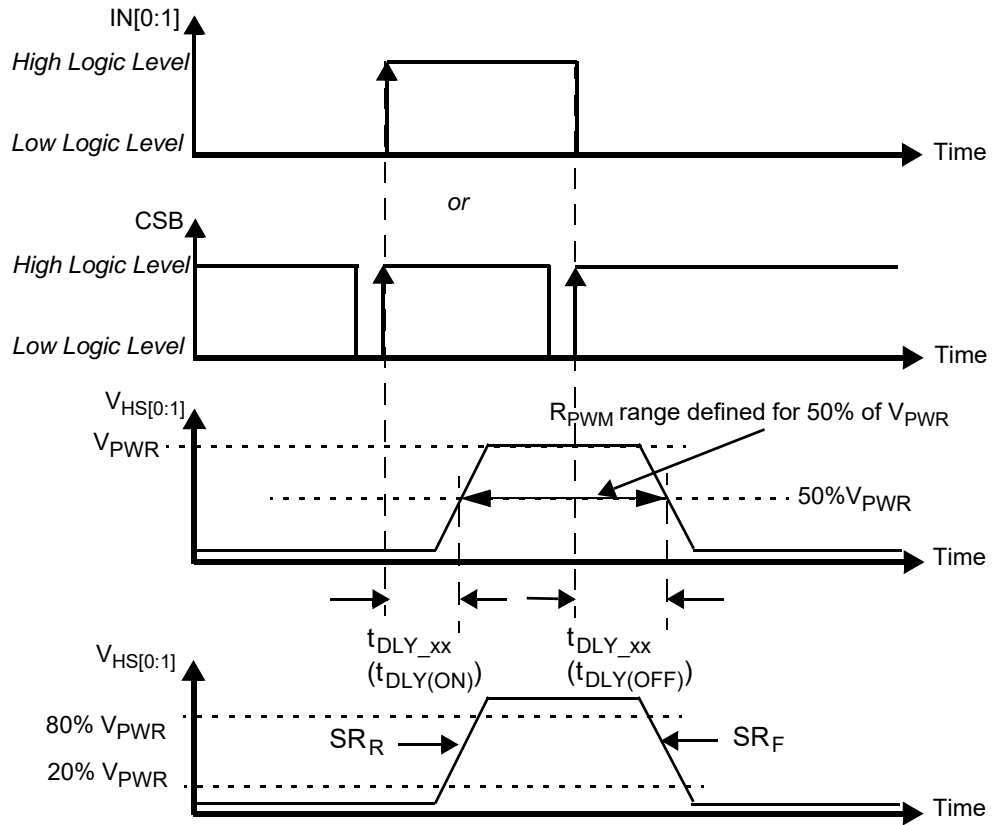
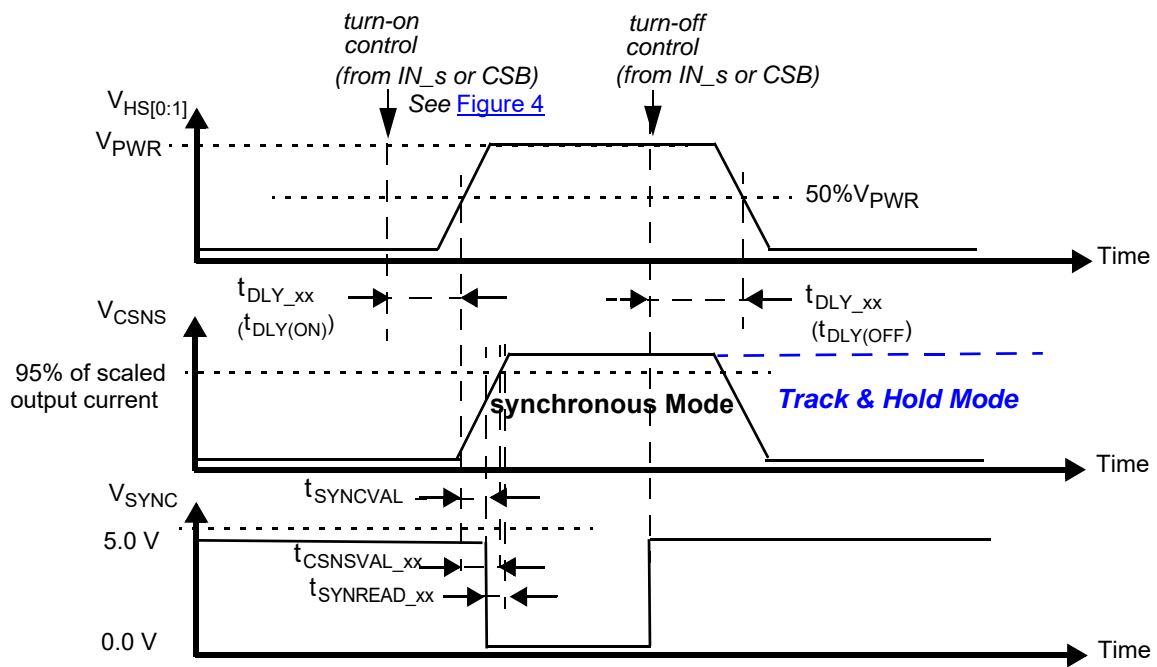

Figure 4. Output voltage slew rate and delay
Figure 9. Synchronous and Track & Hold current sensing modes: associated delay and settling times
30. Rising and Falling edge slew rates specified for a 20 to 80% voltage variation on a $10\ \Omega$ resistive load (see Figure 4).
32. Time required to switch off the channel after detection of overtemperature (OT), overcurrent (OC), SC or UV error (time measured between start of the negative edge on the FSB pin and the falling edge on the output voltage until $V(\text{HS}[0:1]) = 50\%$ of V_{PWR}).
33. Settling time ($= t_{\text{CSNSVAL_xx}}$), SYNC output signal delay ($= t_{\text{SYNCVAL_xx}}$) and Read-out delay ($= t_{\text{SYNREAD_xx}}$) are defined for a stepped load current ($100\text{ mA} < I(\text{LOAD}) < I(\text{OCLX_A FOR CSNS_RATIO_S} = 1)$, AND $300\text{ mA} < I(\text{LOAD}) < I(\text{OCLX_A_0 FOR CSNS_RATIO_S} = 0)$). (see Figure 9 and Output current monitoring \(CSNS\))
34. Settling time ($= t_{\text{CSNSVAL_xx}}$), SYNC output signal delay ($= t_{\text{SYNCVAL_xx}}$) and Read-out delay ($= t_{\text{SYNREAD_xx}}$) are defined for a stepped load current ($100\text{ mA} < I(\text{LOAD}) < I_{\text{OCLX A}}$ FOR $\text{CSNS_RATIO_S} = 1$, AND $300\text{ mA} < I(\text{LOAD}) < I_{\text{OCLX A}_0}$ FOR $\text{CSNS_RATIO_S} = 0$). (see Figure 9 and Output current monitoring \(CSNS\))
The CS pin allows independent current monitoring of channel 0 or channel 1 up to the steady-state overcurrent threshold. It can also be used to sense the device temperature. The different functions are selected by setting bits CSNS1_en and CSNS0_en to the appropriate value (Table 23). When the CSNS pin is sensed during switch-off in the (optional) track & hold mode (see Figure 9), it outputs the scaled value of the load current as it was just before turn-Off. When several devices share the same pull-down resistor, the CSNS pins of devices, the current of which is not monitored, must be tri-stated. This is accomplished by setting CSNS0_en = 0 and CSNS1_en = 0 in their GCR register (Table 12). Settling time ($t_{CSNSVAL_XX}$) is defined as the time between the instant at the middle of the output voltage’s rising edge ($HS[0:1] = 50\%$ of V_{PWR}), and the instant at which the voltage on the CSNS pin has settled to $\pm 5.0\%$ of its final value. Anytime an overcurrent window is active, the CSNS pin is disabled (see Overcurrent detection on resistive and inductive loads). The current and temperature sensing functions are unavailable in Fail-safe mode and in Normal mode when operating without the V_{DD} supply voltage. In order to generate a voltage output, this pin requires a pull-down resistor ($R(CSNS)=1.0\text{ k}\Omega$ typ. and $470 < R(CSNS) < 10\text{ k}$). When the current sense resistor connected to the CSNS pin is disconnected, the CSNS voltage is clamped to $V_{CL(CSNS)}$. The CSNS pin can source currents up to about 5.6 mA.
To synchronize current sensing with an external process, the SYNC signal can be connected to a digital input of an external MCU. An open-drain pull-down on SYNC indicates that the current sense signal is accurate and ready to be read. The current sense signal on the CSNS pin has the specified accuracy $t_{SYNCREAD_XX}$ seconds after the falling edge on the SYNC pin (Figure 9) and remains valid until a rising edge is generated. The rising edge that is generated by the SYNC pin at the turn-OFF instant (internal or external) may also be used to implement synchronization with the external MCU. Parameter $t_{SYNCVAL_XX}$ is defined as the time between the instant at the middle of the output voltage rising edge ($HS[0:1] = 50\%$ of V_{PWR}), and the instant at which the voltage on the SYNC-pin drops below 0.4 V (V_{SOL}). The SYNC pins of different devices can be connected together to save micro-controller input channels. However, in this configuration, the CSNS of only one device should be active at a time. Otherwise, the MCU is not be able to determine the source of the SYNC signal. The SYNC pin requires an external pull-up resistor to V_{DD} .